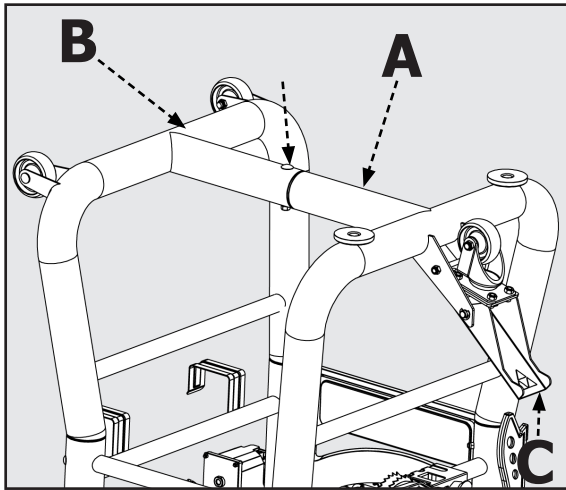

FIGURE 1
1. Connect the two tube legs by inserting the end of the left leg (A) into the end of the right leg (B) as shown in Figure 1. Secure with a M8 x 70mm carriage bolt, lock washer and nylock nut (153, 154, 155) and tighten.
2. Insert the four open ends of the tube legs into the leg collars (C) as shown. Secure each leg with a M6 x 72mm bolt and nut (144, 145).